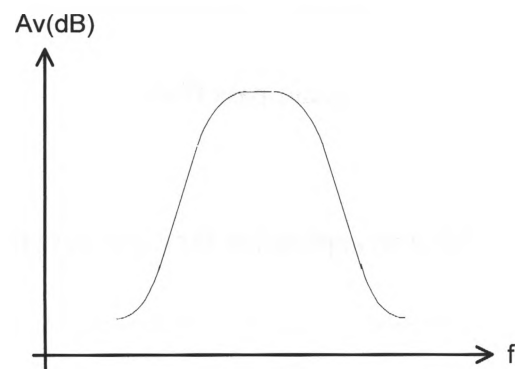

Figure 3
3. What type of filter has the frequency response shown in Figure 3 below?